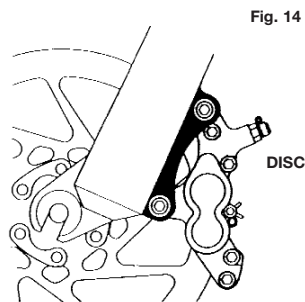
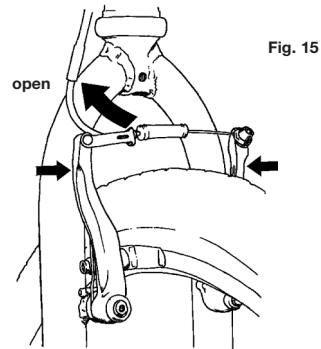

Fig. 14
Fig. 15
- 2 If your bike has rim brakes, disengage the brake's quick-release mechanism to increase the clearance between the wheel rim and the brake blocks (see Section 4.C, figs. 14 through to 18).
- 1 If your bike has rim brakes, disengage the brake's quick-release mechanism to increase the clearance between the tyre and the brake blocks (see Section 4.C, figs. 14 through to 18).
- 1 If your bike has rim brakes, disengage the brake's quick-release mechanism to open the clearance between the tyre and the brake blocks (see Section 4.C, figs. 14 through to 18).
- 3 Some bicycle brakes, such as disc brakes (fig. 14) and V brakes (fig. 15), are extremely powerful. Take extra care in becoming familiar with these brakes and exercise particular care when using them.
understand the way the brake quick release works on your bike (see figs. 14 through to 18) and check each time to make sure both brakes work correctly before you get on the bike.